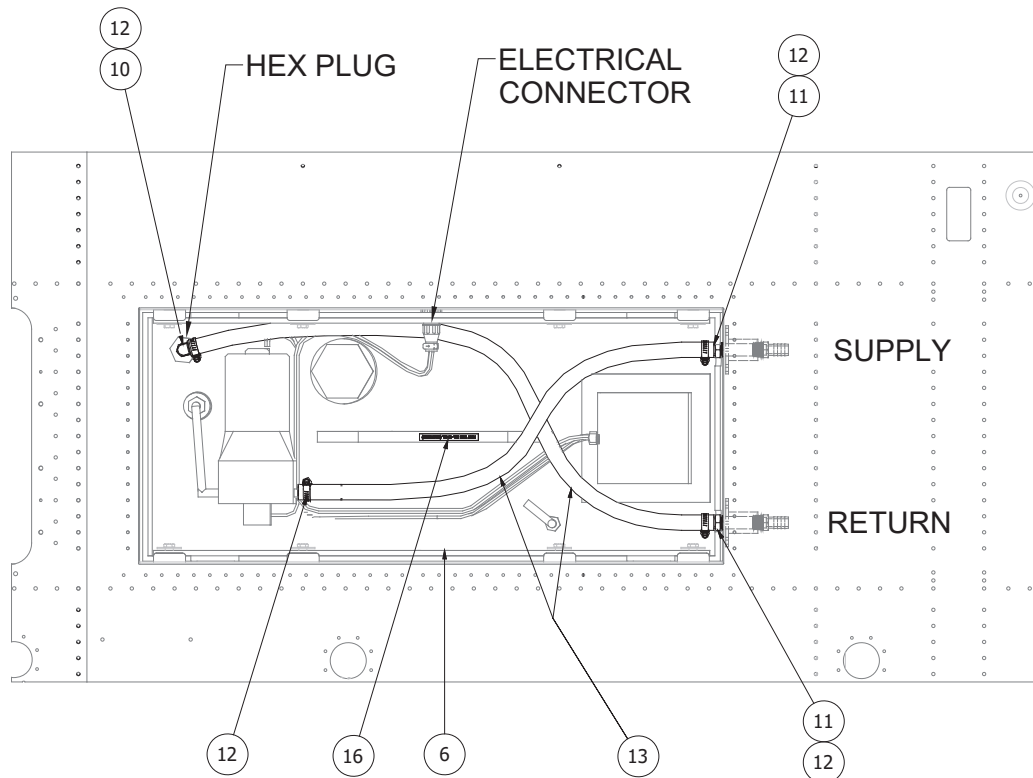

Figure 10
1. Apply Teflon tape to the barbed fitting and install the fitting on the front side of the tube coupler per Figure 10.
2. Connect the Supply tubing between the tank pump and the barbed fitting with noted clamps per Figure 10.
1. Remove the hex plug from the tank from the tank shown in Figure 10, drill a 3/8-18 hole in the center of the plug and tap with a 3/8-18 NPT tap. Apply Teflon tape and reinstall it into the tank.
2. Apply Teflon tape to the threads on the elbow fitting and install into the hex plug in the orientation shown in Figure 10
3. Connect the Return tubing between the elbow fitting and the barbed fitting with noted clamps per Figure 10.
1. Connect the tank wiring to the baggage lip electrical connector per Figure 10.
1. Install the placard as shown in Figure 10.